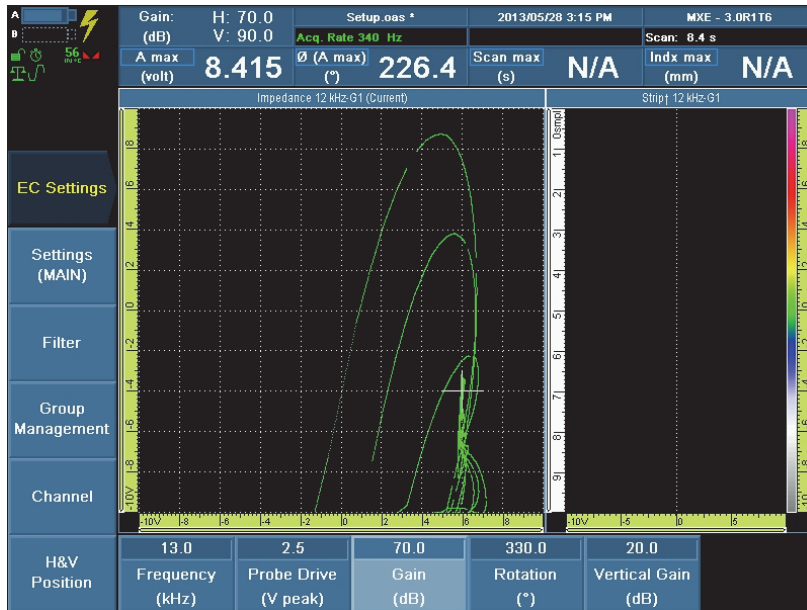

Figure 13-19 Crack signal over 80 % amplitude
- a)* Set the horizontal gain to expand the signal to ensure that it spans at least the half, or 5 grid divisions, of the impedance plane view, to provide 80 % amplitude. In this example, the **Gain (dB)** parameter value is set to **70 dB** (see Figure 13-19 on page 254).